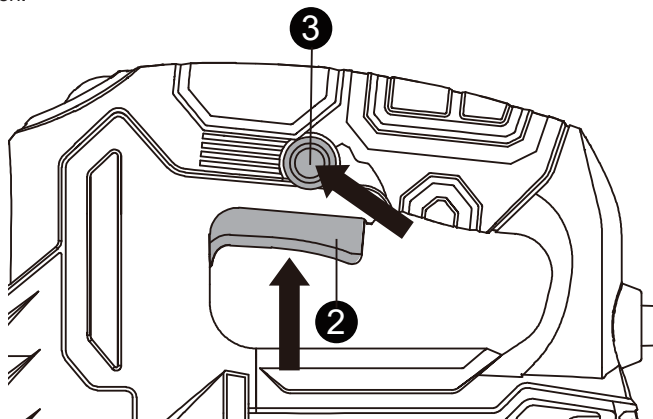

Figure 7
3. SWITCH LOCK-ON BUTTON (SEE FIG. 7)